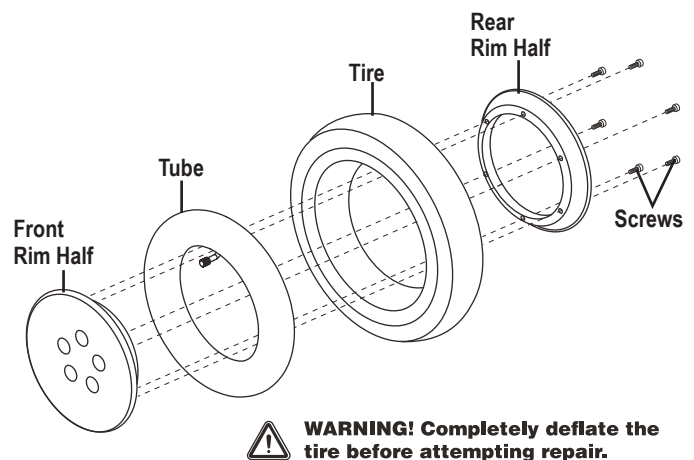

Figure 23. Drive Wheel Disassembled
6. Remove the screws and separate the front and rear rim. **See figure 23.**
10. Reinstall the five (5) lug nuts onto the wheel hub and tighten.